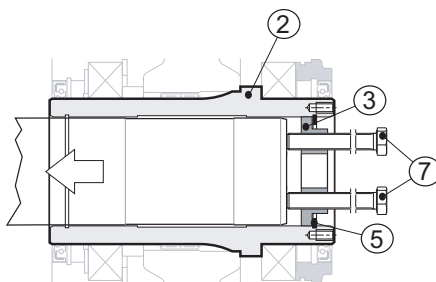

Fig. 17
Insert 2 bolts (pos. 7) into the two threaded holes on the end plate (pos. 3) (pos. and screw them until they touch the machine shaft (pos. 1). Now give them alternately one full turn each (see Fig. 17 (p. 26)).